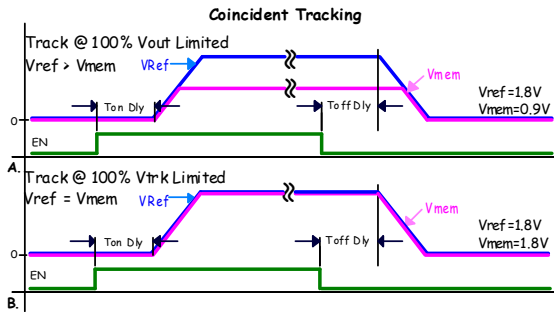

FIGURE 17. COINCIDENT TRACKING
The ZL9101M offers two modes of tracking: coincident and ratiometric. Figures 17 and 18 illustrate the output voltage waveform for the two tracking modes.
1. Track at 100% V_{OUT} limited. Member rail tracks the reference rail and stops when the member reaches its target voltage, Figure 17 \(A\).
2. Track at 100% VTRK limited. Member rail tracks the reference at the instantaneous voltage value applied to the VTRK pin, Figure 17 \(B\).